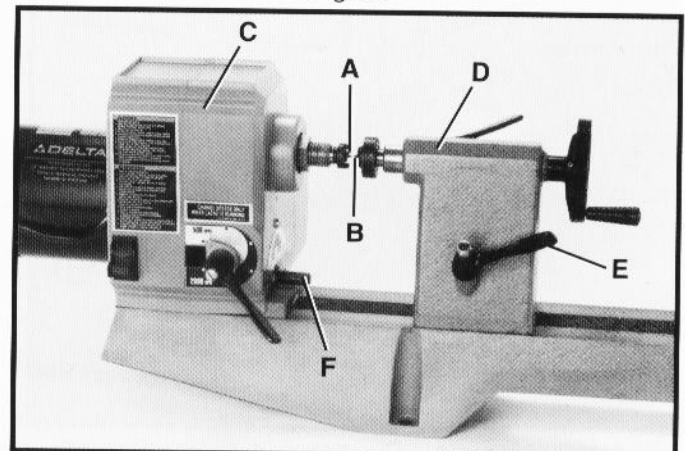

Fig. 32
1. Install pointed centers (A) and (B) Fig. 32, into both the headstock (C) and tailstock (D) spindles.
2. Loosen locking lever (E) Fig. 32 and slide tailstock (D) to the left until tailstock center (B) is almost contacting headstock center (A), as shown. Tighten locking lever (E). Check to see if tailstock center point (B) is in line with headstock center point (A).
3. If an adjustment is necessary, loosen headstock locking shaft (F) Fig. 32, with socket head wrench supplied, and align the headstock center point to the tailstock center point. Tighten locking shaft (F) Fig. 32.
4. The headstock (C) Fig. 32, will now always be aligned to the tailstock (D) when it is tightened.